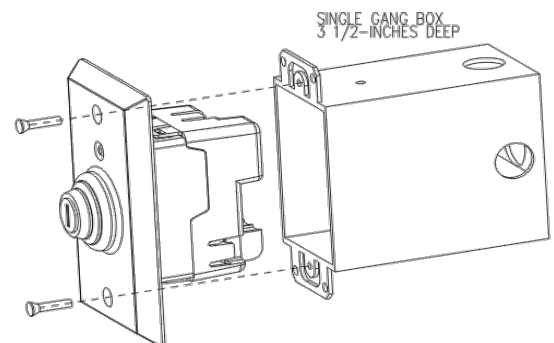

Figure 5
1. Remove the module from its protective bag. Mount the TSM-1X in a user supplied, UL-listed/recognized standard single gang mounting box (minimum 3½ inches deep is recommended). Refer to Figure 5.
3. Insert the face plate and attach the cover plate with the two screws provided. Refer to Figure 5.